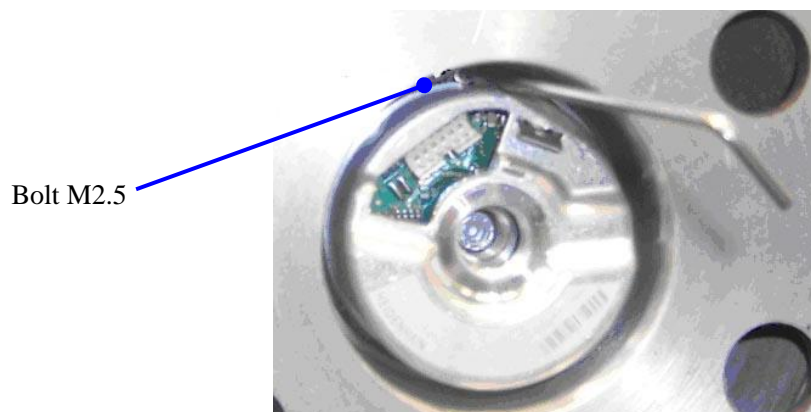

Figure 18: Loosen M2.5 bolt
3. Loosen the bolt M2.5 with hex wrench (2mm). It does not have to be removed. See Figure 18.